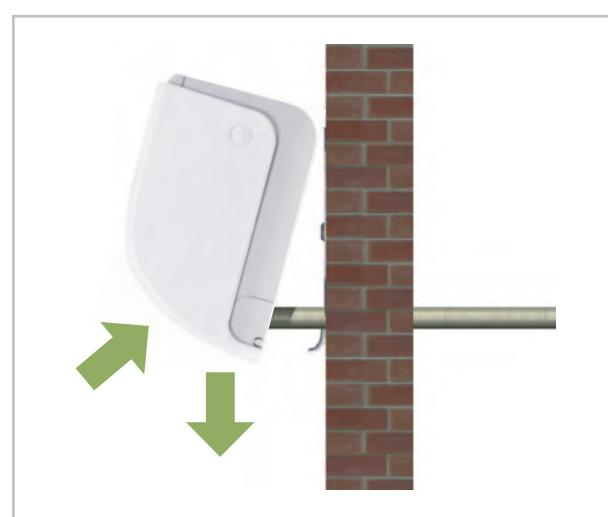

Fig. 36: Horizontal positioning
5. Check again that the unit is level. (Fig. 36)